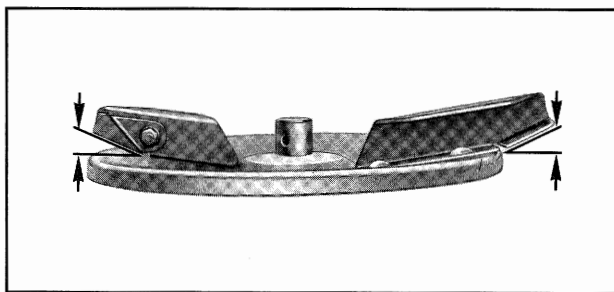

Fig. 7.3
**For late top dressing swivel the swivel blades of the spreading vanes into the uppermost position (Fig. 7.3) without slackening the nuts (without tools). Hereby the fertiliser spread pattern is raised.**